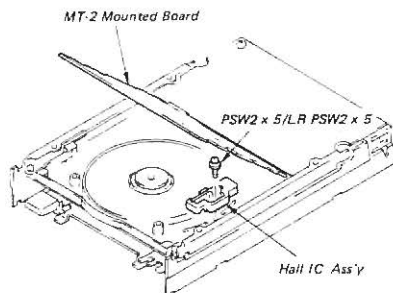

Fig. 4-5 Hall IC Ass'y Replacement
- c. Remove the screw (PSW2x5) securing the Hall IC Ass'y and then remove the Hall IC Ass'y. (Refer to Fig. 4-5)